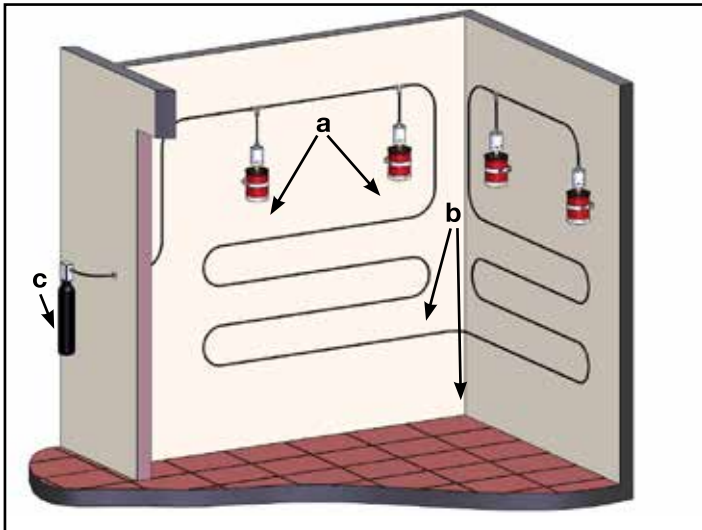

Fig 2: Basic system layout
- One or more Dynameco-PA01 extinguishing generators (fig 2 a)
- A sensor hose system of a length and layout appropriate to the application (fig 2 b)
- A pressure accumulator unit for adjusting and maintaining the system pressure (fig 2 c)